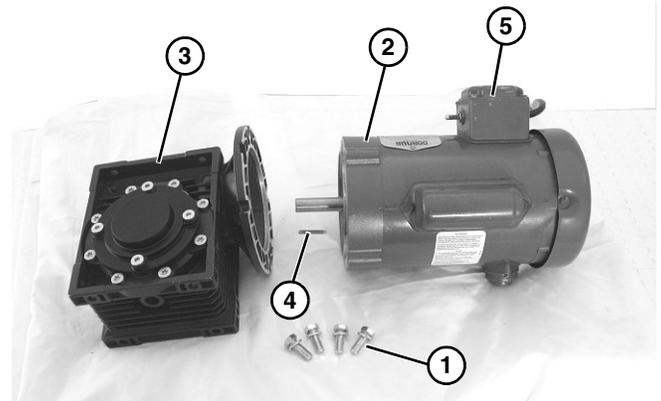

Figure 16
4. Remove four (4) screws (Figure 16, item 1). Detach motor (Figure 16, item 2) from gear reducer (Figure 16, item 3). Retain motor output shaft key (Figure 16, item 4).
5. With key (Figure 16, item 4) in keyway, slide motor (Figure 16, item 2) and gear reducer (Figure 16, item 3) together, noting where position of switch (Figure 16, item 5) will be during installation on conveyor.
6. Install screws (Figure 16, item 1) and tighten to 65 in-lbs (7.3 N-m).